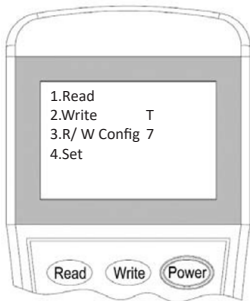

Figure 7
3. Switch-on the programming tool, then press button “4” to enter to Setting mode (Figure 7). The programming tool will display the actual configuration after few seconds.